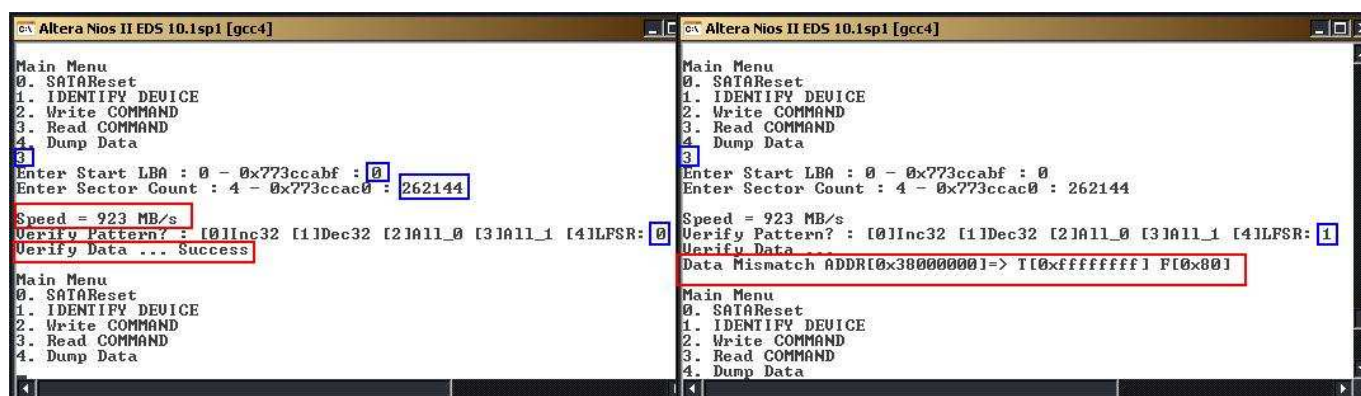

Figure 11 READ COMMAND with verify
- Verify Pattern: this menu will be displayed if Sector Count value is not more than 262144. 5 verify patterns can be selected, like in WRITE COMMAND menu. "Verify Data ... Success" will be displayed if all data in read buffer is equal to check pattern, as shown in left window of Figure 11. But "Data Mismatch with failure value" will be displayed instead if data is not equal, as shown in right window of Figure 11